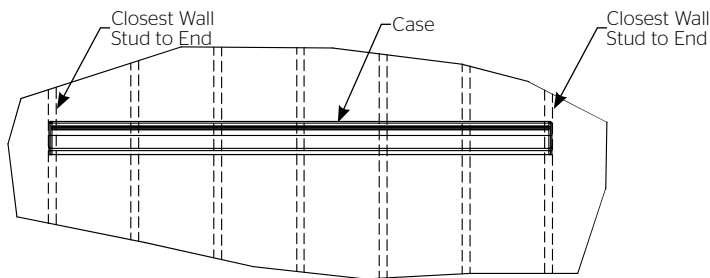

Figure 1
4. Locate the (2) wall studs closest to the ends of the case. (See Figure 1).